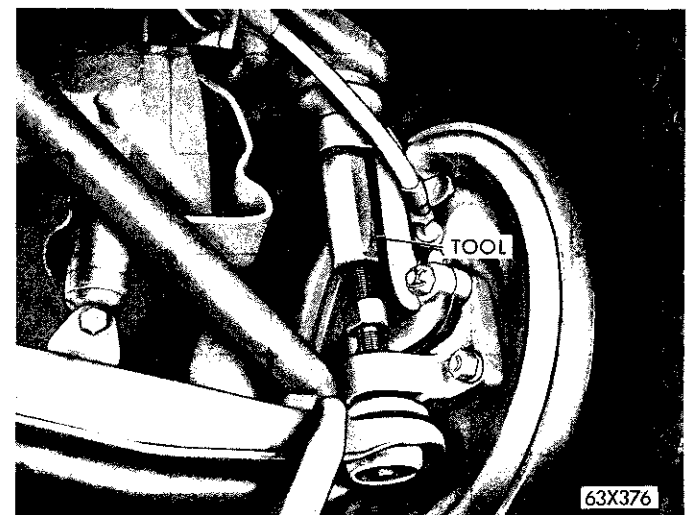

Fig. 9—Removing Lower Ball Joint Stud (Imperial)
(1) Place a jack under the lower control arm and raise the vehicle.
(2) Remove the wheel, tire and drum assembly and the brake support assembly.
(3) Remove the upper and lower ball joint and nuts. Slide Tool C-3564 over the upper stud until the tool rests on the steering knuckle. Turn the threaded portion of the tool locking it securely against the lower stud (Fig. 9). Spread the tool enough to place the lower stud under pressure, then strike the steering knuckle sharply with a hammer to loosen the stud. Do not attempt to force the stud out of the knuckle with the tool alone.
(4) Remove the tool, then disengage the ball joint from the knuckle.
(5) Using Tool C-3561 remove the ball joint from the lower control arm.
(1) Remove the torsion bar.
(2) Remove the wheel, tire and drum assembly. Remove the brake support assembly.
(3) Disconnect the shock absorber at the lower control arm bracket then push the shock absorber up into the frame out of the way.
(4) Remove the nuts, lockwashers and bolts attaching the strut to the lower control arm.
(5) Remove the upper and lower ball joint stud nuts. Slide Tool C-3564 over the upper stud until the tool rests on the steering knuckle. Turn the threaded portion of the tool locking it securely against the lower stud (Fig. 9). Spread the tool enough to place the lower stud under pressure, then strike the steering knuckle sharply with a hammer to loosen the stud. **Do not attempt to force the stud out of the knuckle with the tool alone.**
(6) Remove the tool, and disengage the ball joint from the knuckle.
(7) Remove the cotter pin, nut and washer attaching the lower control arm pivot shaft to the frame.
(8) Tap the end of the shaft (a tapered fit in front crossmember) with a "soft end" hammer to aid in removal of the shaft from the crossmember.
(9) Remove the lower control arm and shaft as an assembly.